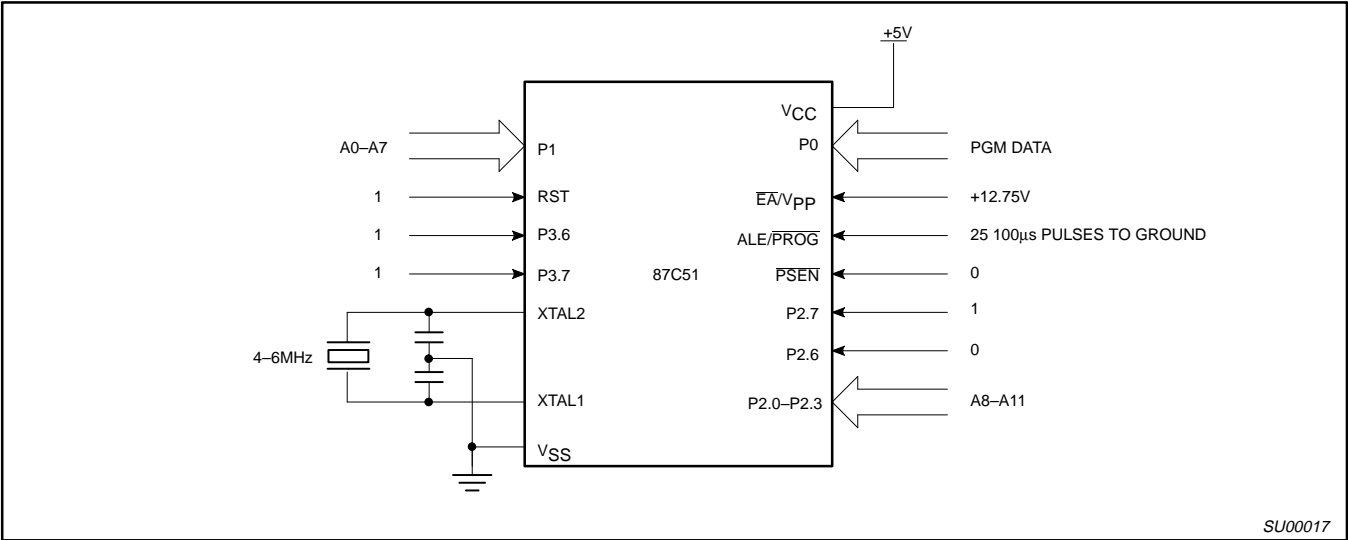
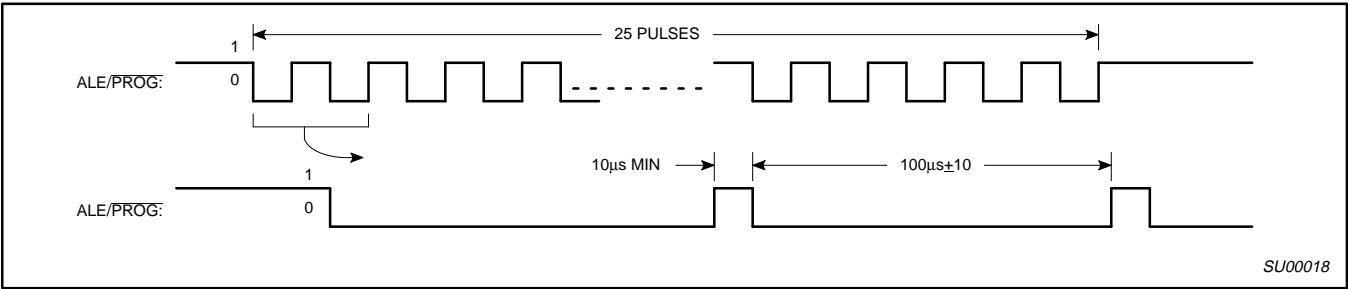
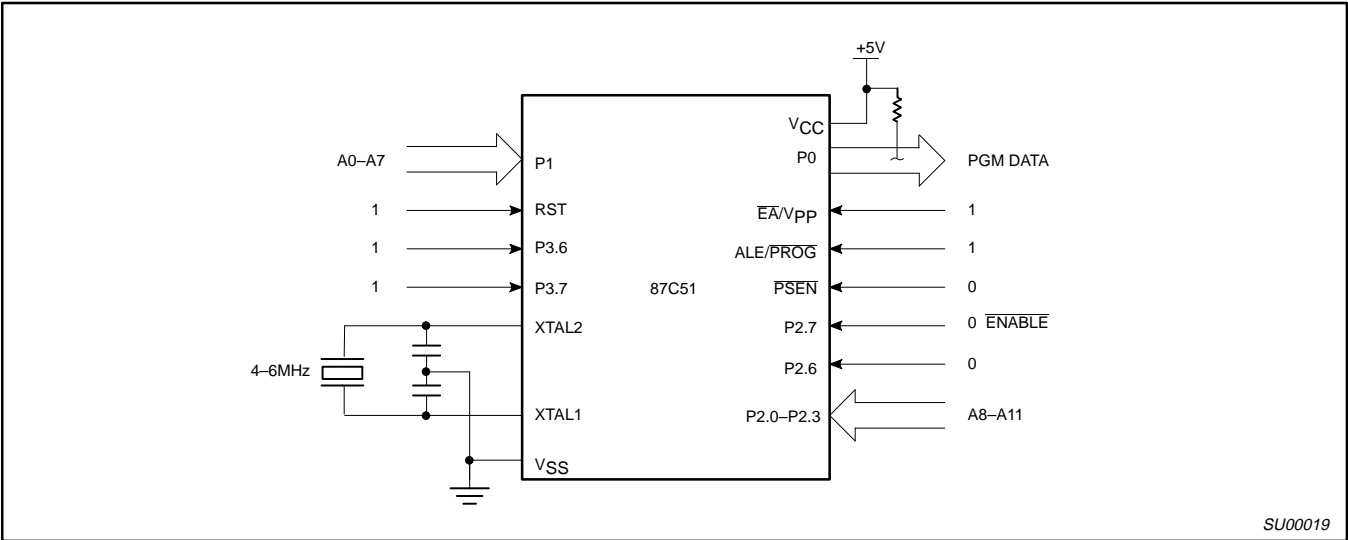

Figure 13. Programming Configuration
Figure 14. PROG Waveform
Figure 15. Program Verification
Table 3 shows the logic levels for reading the signature bytes, and for programming the program memory, the encryption table, and the security bits. The circuit configuration and waveforms for quick-pulse programming are shown in Figures 13 and 14. Figure 15 shows the circuit configuration for normal program memory verification.
The setup for microcontroller quick-pulse programming is shown in Figure 13. Note that the 87C51 is running with a 4 to 6MHz oscillator. The reason the oscillator needs to be running is that the device is executing internal address and program data transfers.
The address of the EPROM location to be programmed is applied to ports 1 and 2, as shown in Figure 13. The code byte to be programmed into that location is applied to port 0. RST,  $\overline{PSEN}$  and pins of ports 2 and 3 specified in Table 3 are held at the 'Program Code Data' levels indicated in Table 3. The ALE/ $\overline{PROG}$  is pulsed low 25 times as shown in Figure 14.
If security bit 2 has not been programmed, the on-chip program memory can be read out for program verification. The address of the program memory locations to be read is applied to ports 1 and 2 as shown in Figure 15. The other pins are held at the 'Verify Code Data' levels indicated in Table 3. The contents of the address location will be emitted on port 0. External pull-ups are required on port 0 for this operation.
- \* FOR PROGRAMMING VERIFICATION SEE FIGURE 13.
FOR VERIFICATION CONDITIONS SEE FIGURE 15.